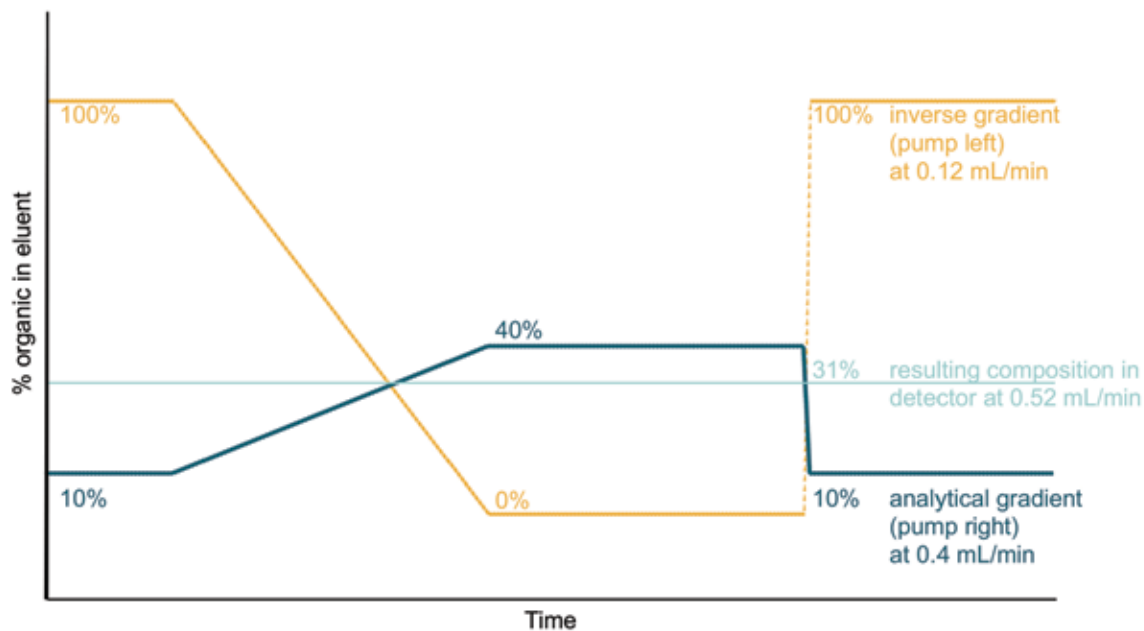

Figure 7. Option 3: Minimize Flow.
- What it is: The make-up flow of the second pump is reduced to a minimum, while the full range of organic portion for the pump is applied from 100% to 0% (Figure 7).